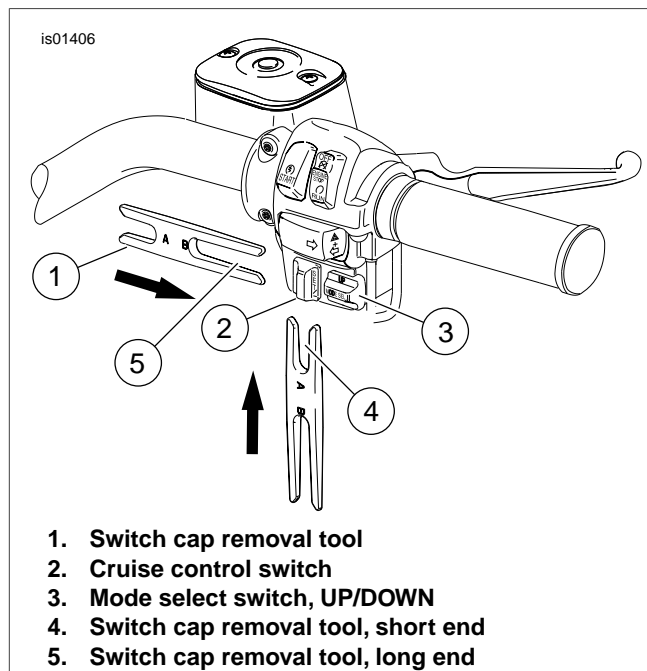
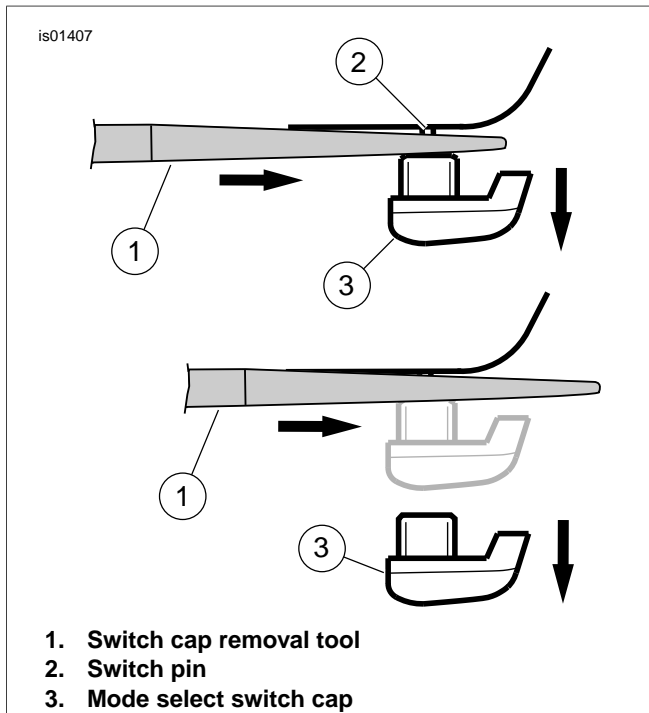

Figure 2. Cruise Control and Mode Select Switch Caps
Figure 3. Mode Select Switch Cap
1. See Figure 2. Use short end (4) of tool to remove cruise control switch cap (2). Push upwards under switch cap. The tool taper will slowly push the switch cap off switch pin.
2. See Figure 3. Use long end (Figure 2, Item 5) of tool (1) and push tool straight and under mode switch cap until it is disengaged from switch pin (2) to remove mode select switch cap (3).